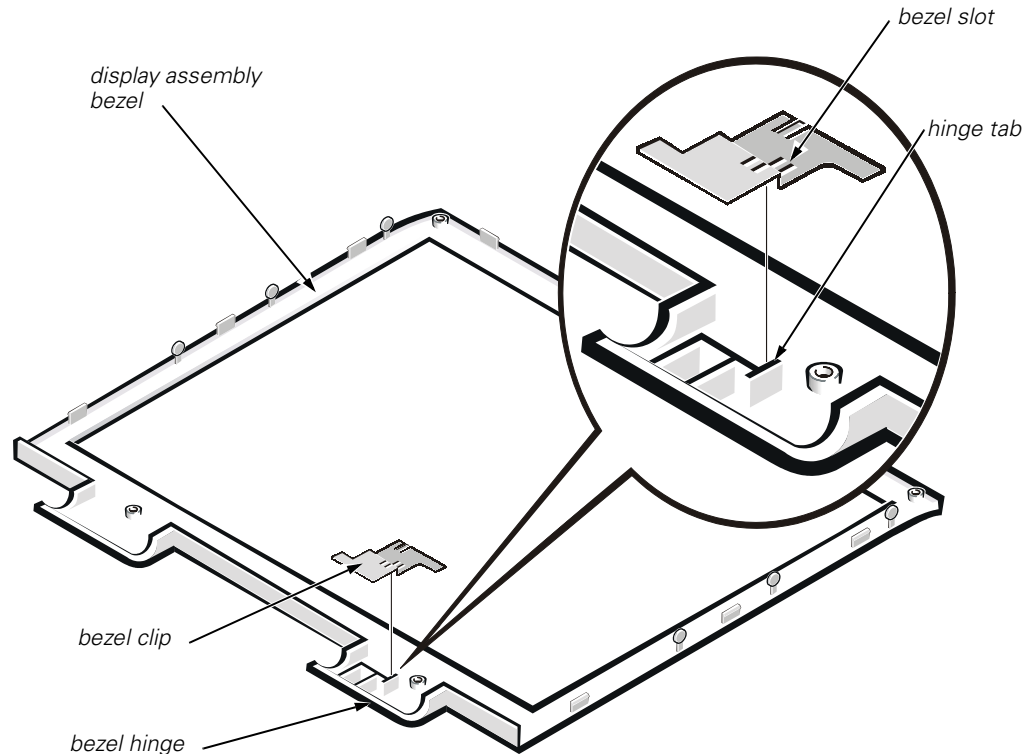

Figure 15. Display Assembly Bezel (bottom view)
2. *If your replacement LCD panel is a Samsung* — Install the display bezel clip (if one is not present) by placing the bezel slot over the hinge tab and pressing gently until it snaps (see Figure 15).
If your replacement LCD panel is an IBM/Hitachi — Remove the display bezel clip (if present) by gently prying it up with a small-blade screwdriver (see Figure 15).